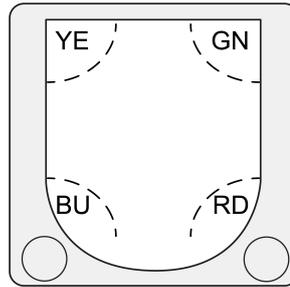

Figure 7: Status LED
Behind the sensor window (4) there are status LEDs for indicating different states of operation (Figure 7).